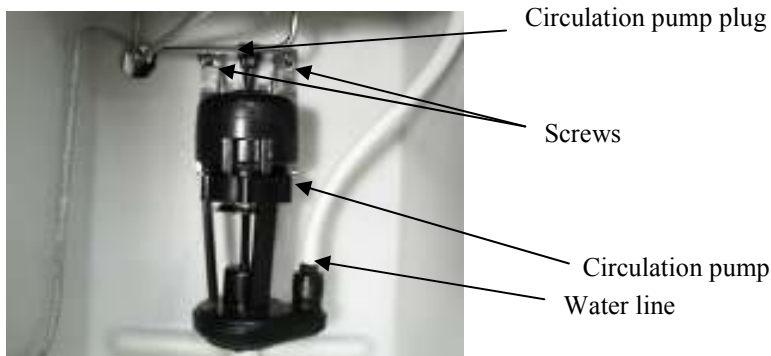

Figure 6.6
6. Unplug the circulation pump at the receptacle at the top of the circulation pump (see figure 6.6).
7. Disconnect the water line at the circulation pump (see figure 6.6).
8. Remove the two screws that secure the circulation pump (see figure 6.6).